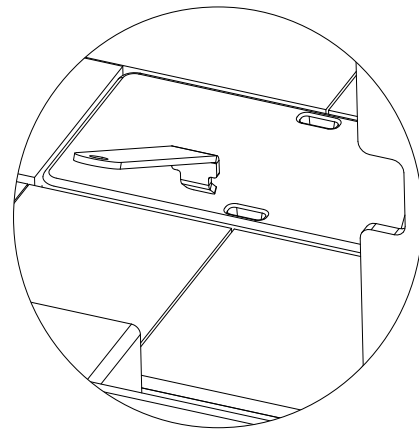

Figure 18.2
2. Remove cast iron cap from inside the firebox using tools supplied. Clean ash through the ash removal system channel into the drawer below (**Figure 18.2**). Make sure all ash is removed from the top of ARS door. Lift up the grate and inspect the top of the door to ensure all ash has been removed. You can rapidly move the ARS latch handle up and down to help remove any ash from the door. Use a small brush to clean off the top of the door if any ash remains. **Be sure to replace the cap before operating the stove.** It is recommended to leave 1/4 to 1/2 inch (6-13mm) of ash on the firebox floor to allow air to flow freely underneath wood.